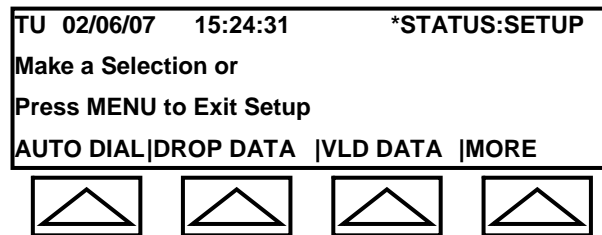

Fig. 4-14m: Telephone Number Entry
The screen will appear as in Figure 4-14m.
5. Select BACK to return to previous screen or select MORE to return to Figure 4-14m.